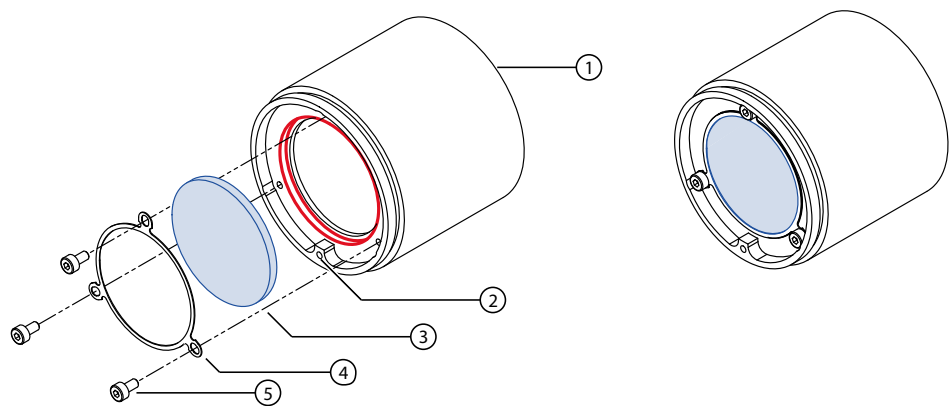

Figure 67: Changing the filter in the M42-Mount adapter
- See Figure 67 (blue = filter, red = filter recess).